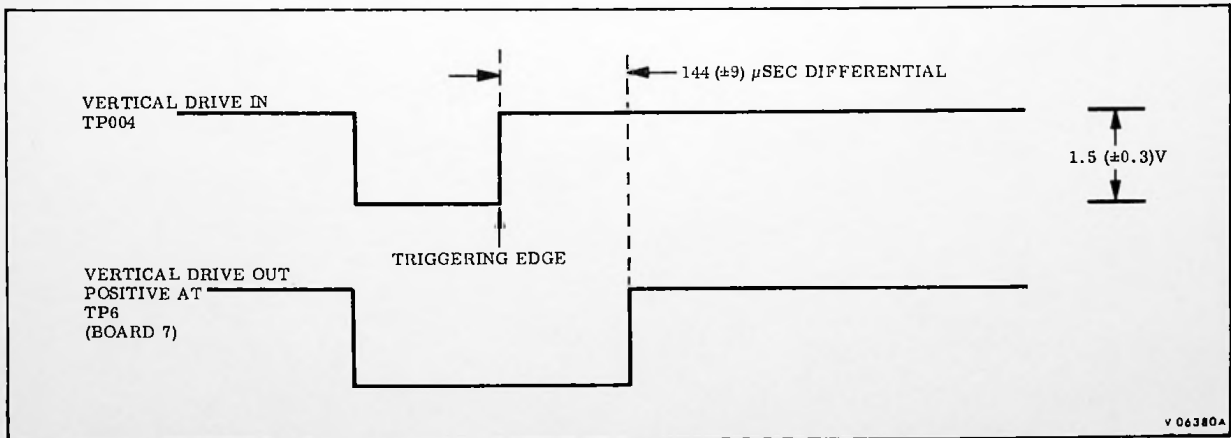

Figure 5.2-3. Drive Extender Pulse Duration Differential
- a. Connect the probe to TP004 (system). A vertical drive signal should be present as shown in Figure 5.2-3.
- b. Connect the probe to TP6, board 7, and externally sync the oscilloscope (+) from TP004 (system). The difference in duration of the pulses should be 144 (± 9) μSEC as shown in Figure 5.2-3.